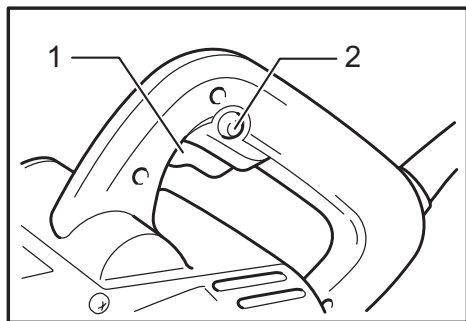

Fig.2
► Fig.2: 1. Switch trigger 2. Lock button